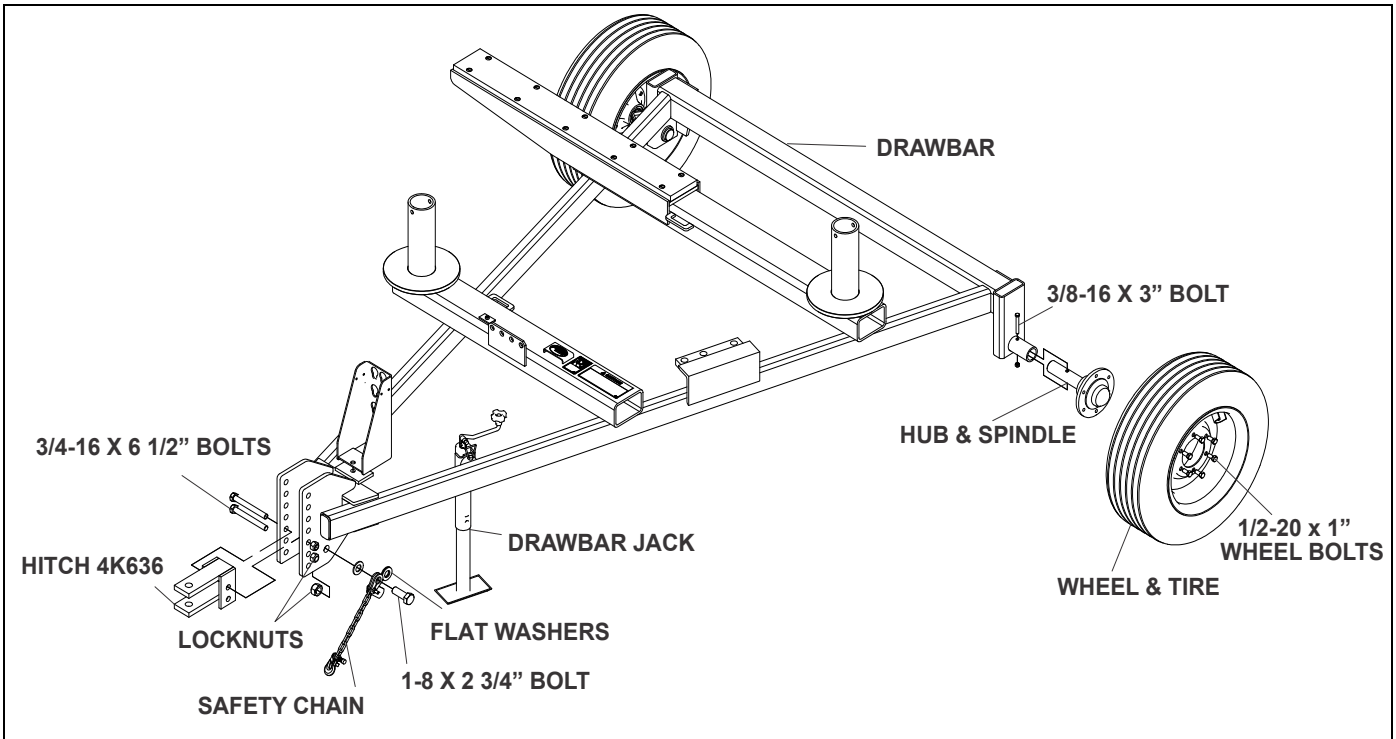

Figure 2-1: Drawbar Assembly
1. Attach each Hub and Spindle with a 3/8-16 x 3 Hex Capscrew and Locknut. See Figure 2-1.